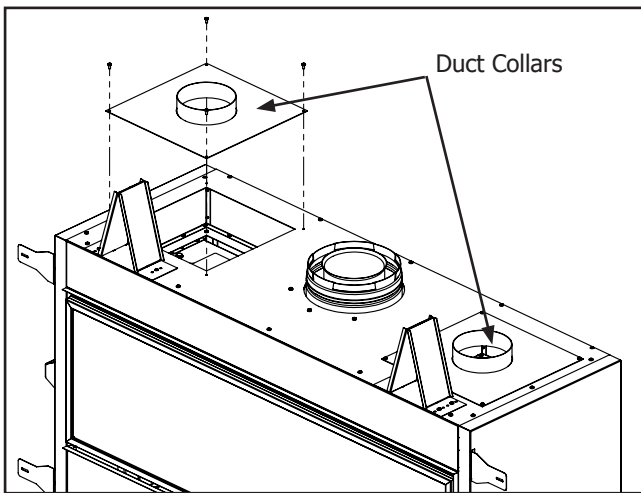

Figure 21: Duct Collars Installed
Step 2: Attach the supplied duct collars to the top of the cabinet as shown (Figure 21). Secure the collars by re-using the eight (8) screws saved in the previous step.